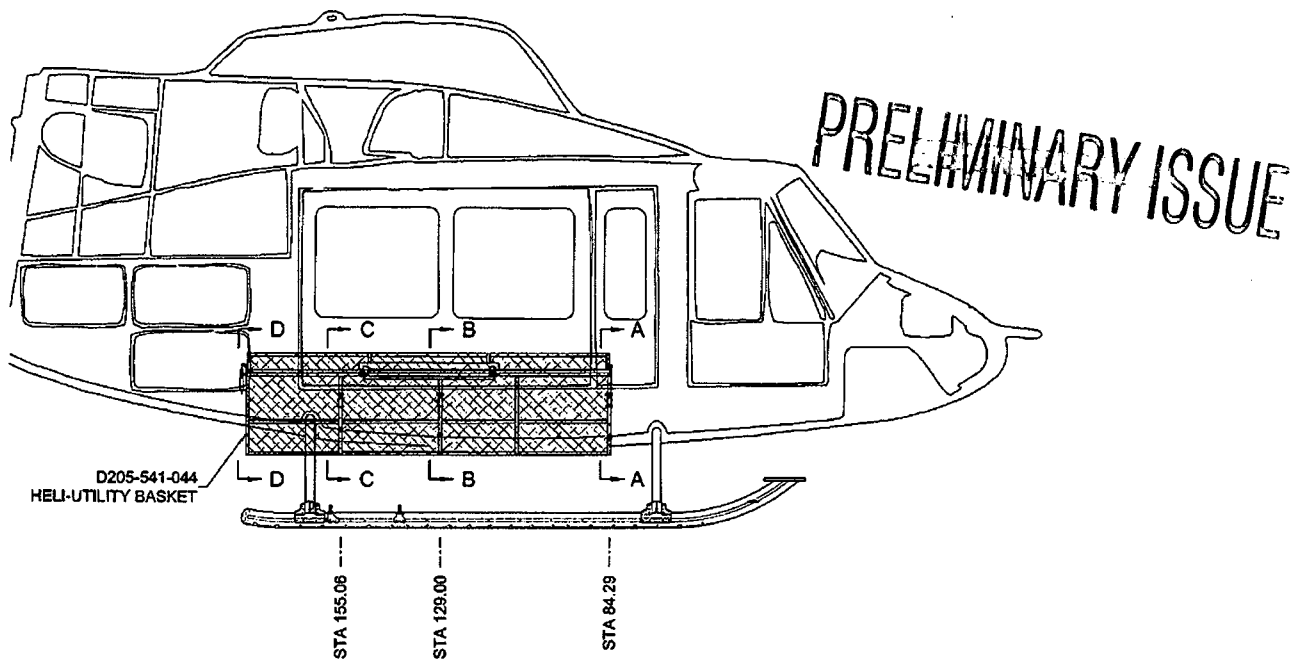

Figure 1a - D205-541-044 Heli-Utility-Basket™ - Side View Shown
Figure 1a shows the D205-541-044 **Heli-Utility-Basket™** installed on the aircraft. Figure 1b shows the D205-541-046 **Heli-Utility-Basket™** with the D205-541-048 **Heli-Access-Step™** installed on the aircraft.
- 3.1.2 Locate the D205-541-043/-044/-045/-046 *Heli-Utility-Basket™* as shown in Figure 1a or 1b.